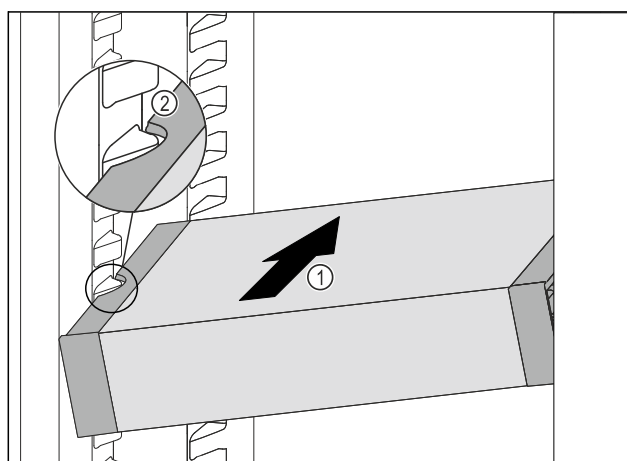

Fig. 46
- Insert the VarioSafe into the refrigerator compartment at an angle Fig. 46 (1) until the recesses in the side Fig. 46 (2) of the VarioSafe are at the level of the support rib in the refrigerator compartment.